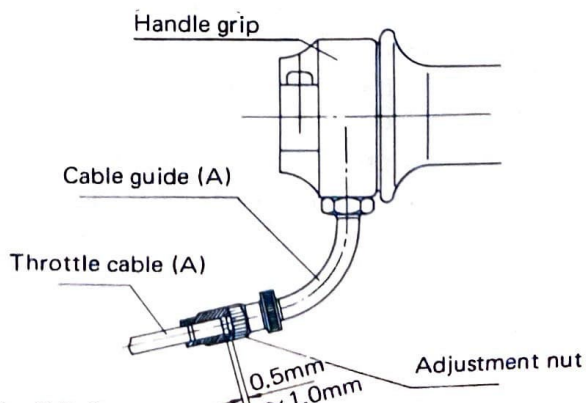

Fig. 2-3-6
- After this adjustment, pull both throttle cable (B) alternately, and engine speed will slightly increase from idling RPM.
- 2) Next, adjust the throttle cable (A) so that the gap as shown in Fig. 2-3-6 will be between 0.5 and 1.0 mm.
- While pulling the outer part of the throttle cable (A), turn the accelerator grip and check the play. If the play is excessive or insufficient, adjust the play with the adjustment screw.